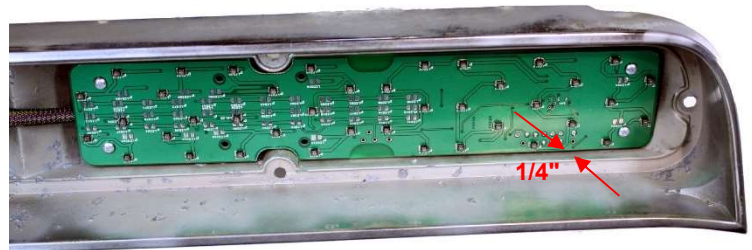

Figure 3
- 3.3. For each housing, place the appropriate LED panel into the proper back housing, pass the bulb base through the outboard bulb base hole, if sequential patterns are desired – feed the pink wire through the grommet installed, center relief within the panel over the screw boss within the light cell. Inset the LED panels ~1/4 inch from the Lens mating surface. (See Figure 3) While maintaining this position, use a marking pen to transfer the mounting hole locations onto the aluminum mounting brackets on the LED panels. Remove the panels and drill these locations with a 3/32 inch drill bit.